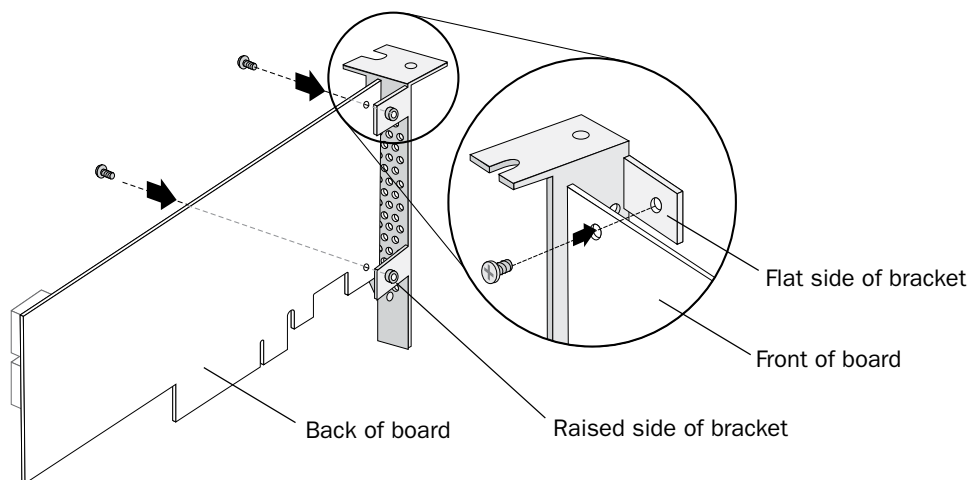

Figure 3
- 2 Attach the low-profile bracket to the controller board. The low-profile bracket is installed on the *back* side of the controller, with the mounting screws inserted from the front of the controller, as shown the Figure 3.
**⚠ Caution:** The mount points on the low-profile bracket have a smooth or flat side and a raised side that looks like a spacer (see Figure 3). Be sure to install the bracket with the flat side against the controller PCB and the raised side facing away from the PCB.